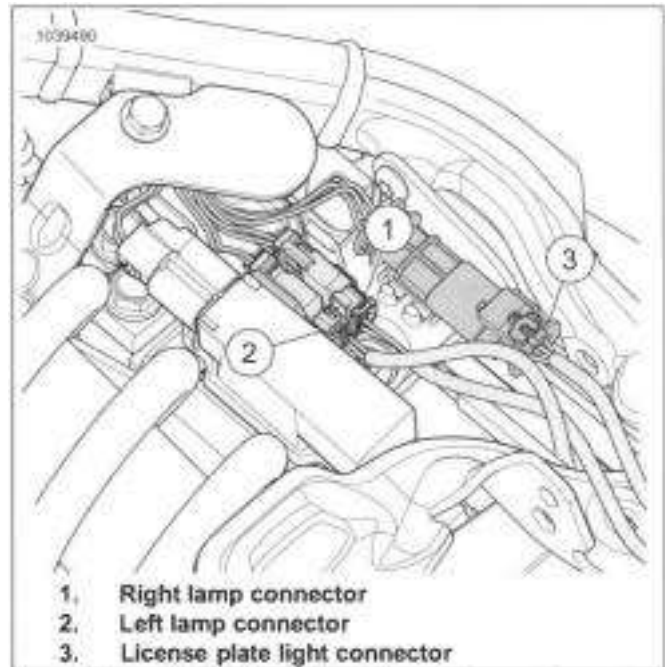

Figure 7-102. Turn Signal Lamp Connectors
1. See Figure 7-102. Disconnect connector (3).
2. Disconnect pins from connector (3). See electrical diagnostic manual.